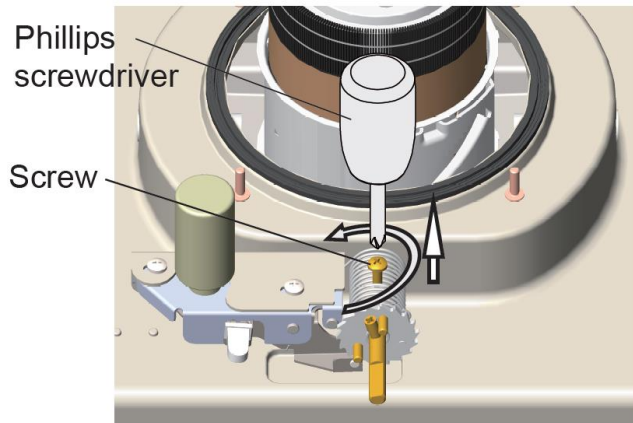

Fig. 15
4. With a phillips screwdriver counterclockwise rotating to unload of the on the tube screw. (Fig.15)